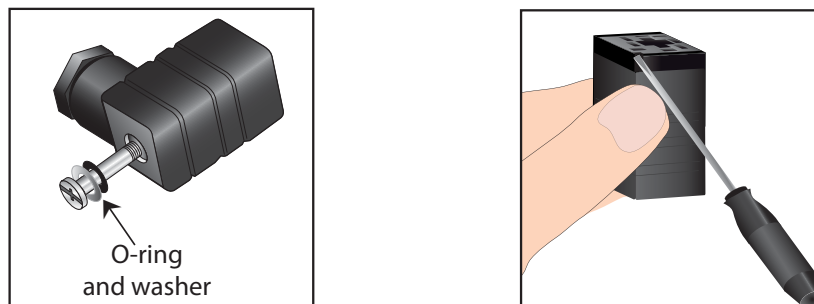

Figure 5 Connector Terminal Block Removal
1. Remove the red protective cover (2) from the tip of the transmitter (1).
2. Fit the ½" VCR gasket (3) over the threaded part of the transmitter body.
3. Screw the transmitter (1) into the sensor block (4) and, holding the Pura transmitter stationary with a spanner/wrench, tighten the gas line nut 1/8 of a turn using a second spanner/wrench. **NOTE: Use the flats of the hexagonal nut and not the transmitter body.**
4. Fit the transmitter cable/connector assembly to the plug located on the base of the transmitter and tighten the fixing screw (see *Figure 5*).